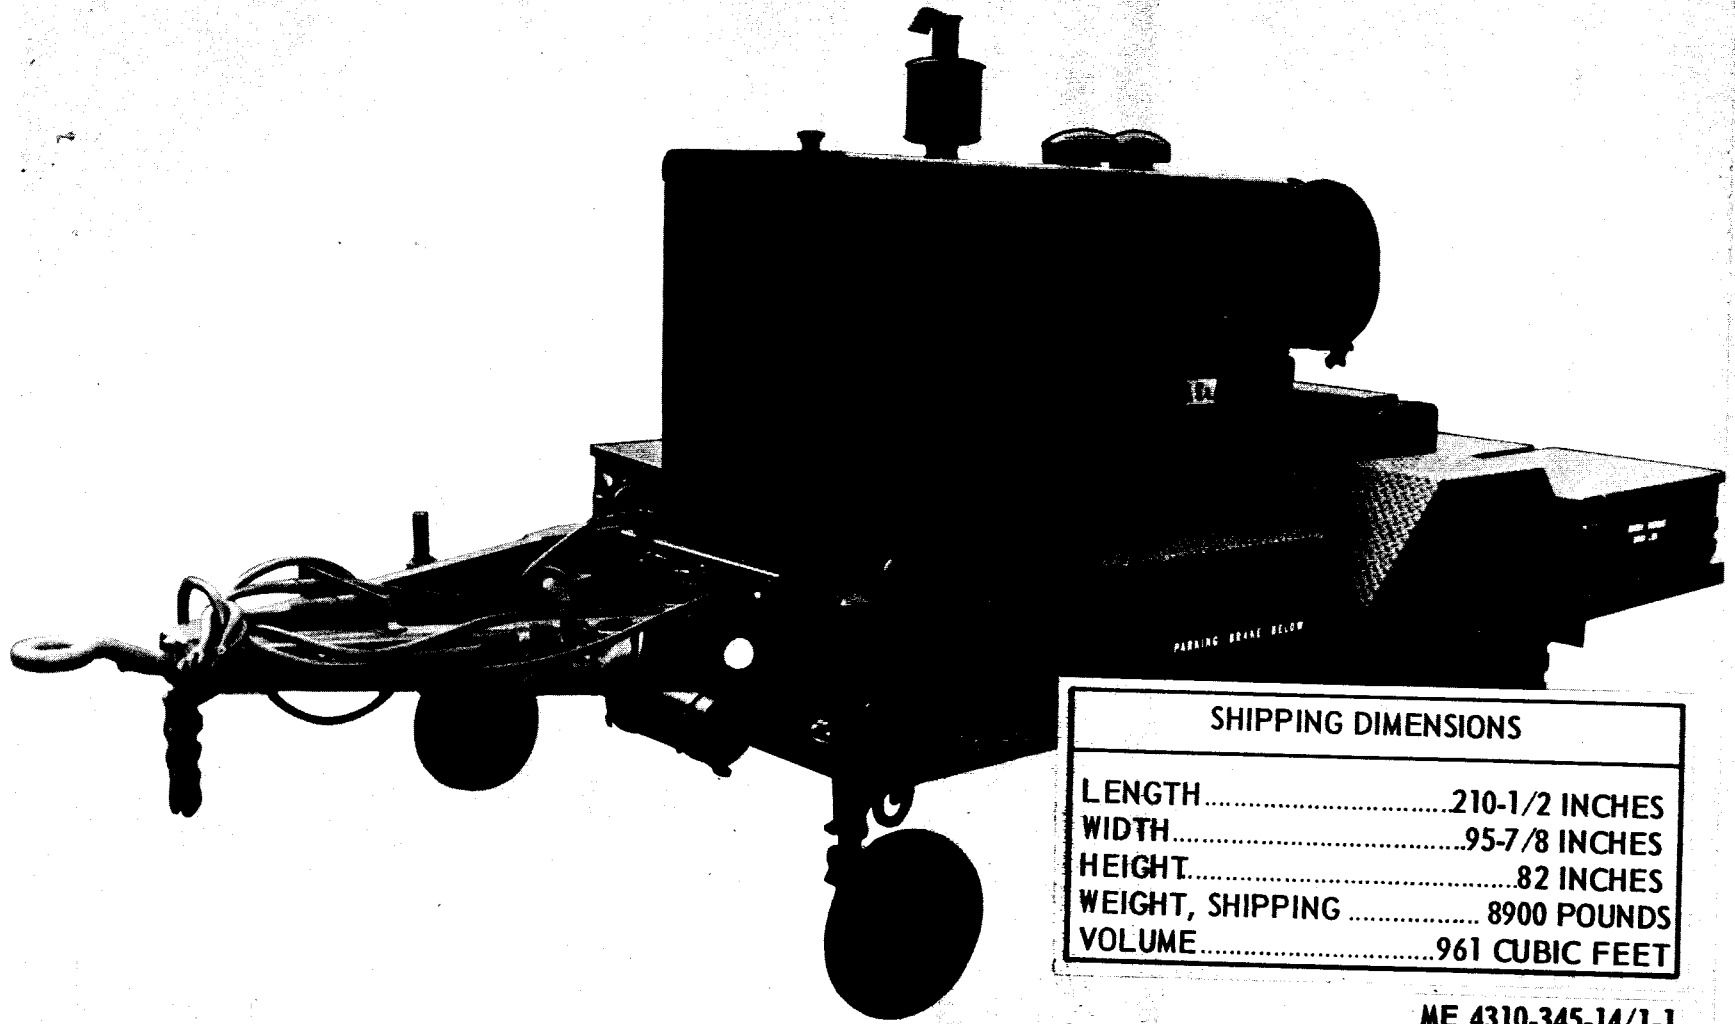

Figure 1-1. Model 14M250RPV Rotary Air Compressor, left front, three-quarter view.
a. The air compressor unit is a trailer mounted, two-wheel pneumatic tired, diesel engine driven, sliding blade type, rotary air compressor. The unit supplies 250 cubic feet of air per minute (CFM) at a discharge pressure of 100 pounds per square inch (PSI). (fig. 1-1 and 1-2).